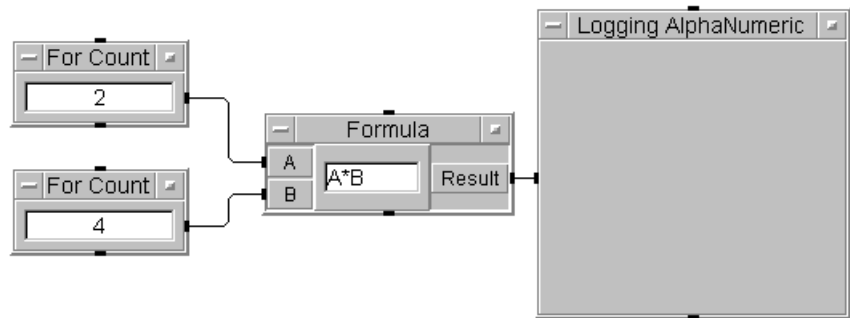

**Figure 1-8. Intersecting Loops**
**Intersecting Loops.** In versions before 4.0, you could intersect iteration objects. The execution order was undefined, but was affected by the order the connections were made. In VEE 4 and higher Execution Mode, only loops that intersect via a Junction object are allowed. Any other intersecting loops generate error 938. VEE was unable to compile this part of the program. Figure 1-8 shows this situation.